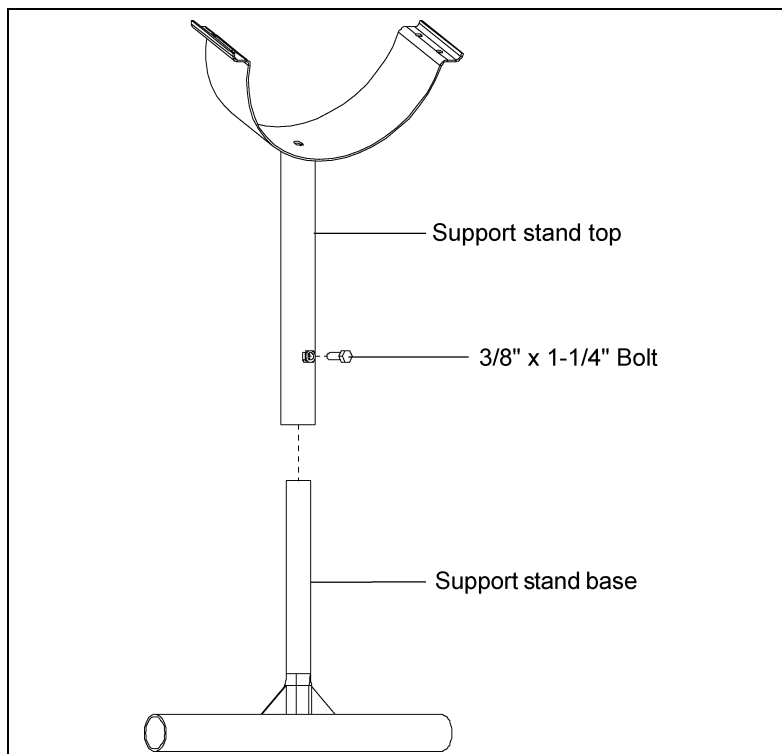

Figure 4B
1. Insert support stand base into support stand top and secure with 3/8" x 1-1/4" bolt. (See Figure 4B.)